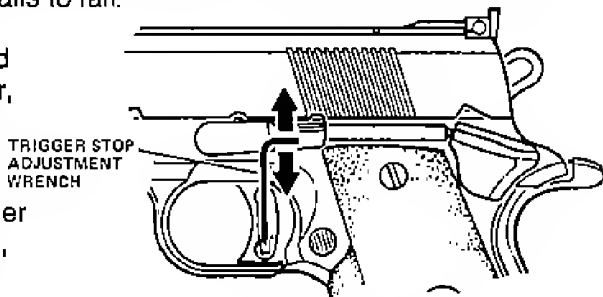

FIGURE 9—ADJUSTING
2. Remove magazine, fully cock the pistol and allow slide to return forward. Squeeze trigger—if hammer falls proceed with Step 3; if hammer fails to fall proceed with Step 4. (See Figure 9)